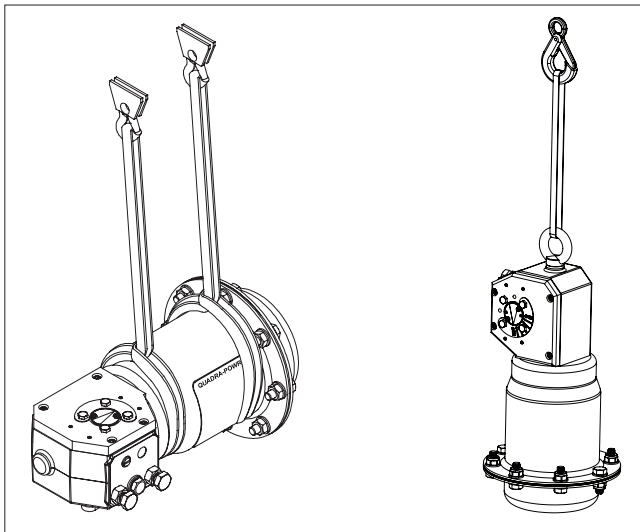

Figure 3. Lifting the actuator
Lift the actuator as shown in Figure 3: in a horizontal position from the spring housing, in a vertical position from an eye bolt screwed in place of the set screw (35). Refer to Section 7 for weights.
The actuator must be depressurized and the supply air disconnected. Unscrew the actuator-side bracket screws and pull the actuator off the valve shaft. This is best done by lifting the actuator as show in Figure 3. Note the mutual positioning of the valve and the actuator to ensure correct functioning after reassembly.